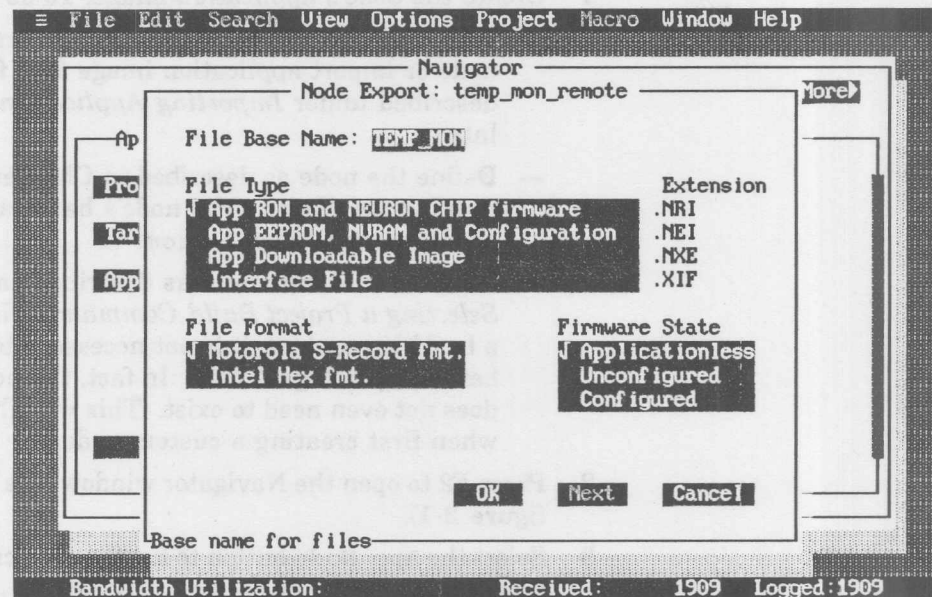

Figure 7-4. Node Export Window
- 6 Select the More command button to access additional options. Select the Export command button to open the Node Export window (see figure 7-4). The name of the first selected node is displayed in the title bar.